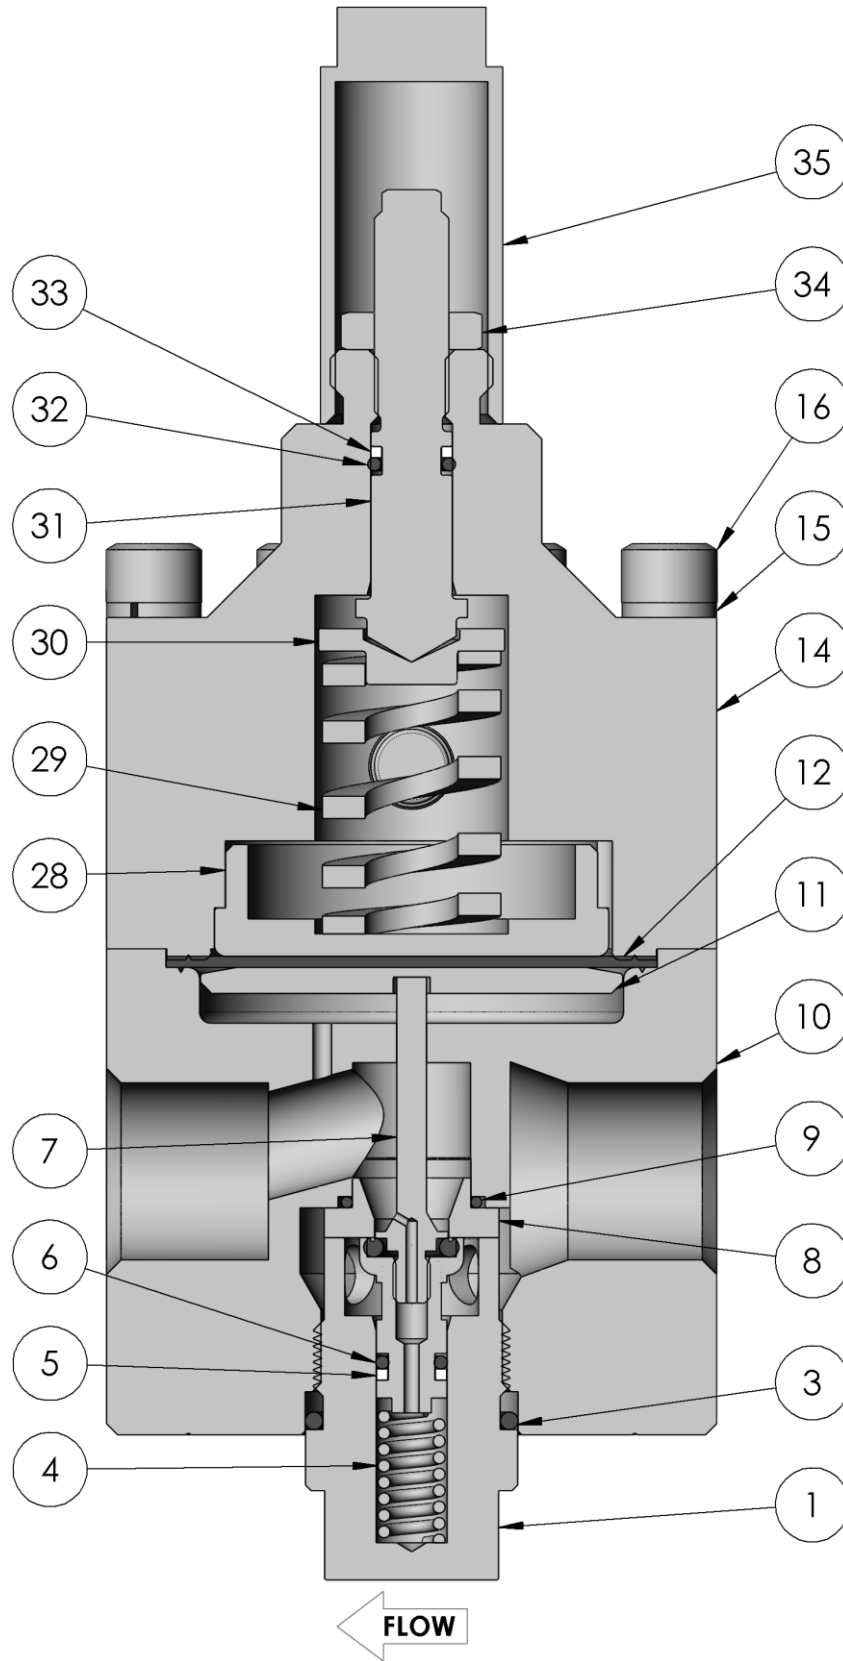

Fig 10
2. Insert the O-ring (32) and backup ring (33) onto the stem (31). Ensure their orientation is correct per Fig 10.
3. Lightly lubricate the stem O-ring (32).
4. Lightly lubricate the adjusting screw threads (31) and install into the dome (14).
5. Screw the lock nut (34) onto the adjusting screw (31).
6. Stack the lower spring guide (28), differential spring (29), and upper spring guide (30) centrally onto the diaphragm (12) then cover with the dome (14). Orient the dome ports as desired.